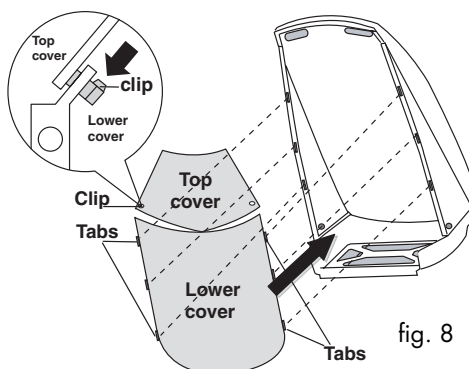

fig. 8
- 4) Finally, fit the flexible rear panel. First, engage the two clips located on the top cover, in order to bend the panel and fix it into shape. Then insert the six tabs in the six slots at the rear of the heater body. **Attention:** to unhook press on the relevant clips (fig.8).